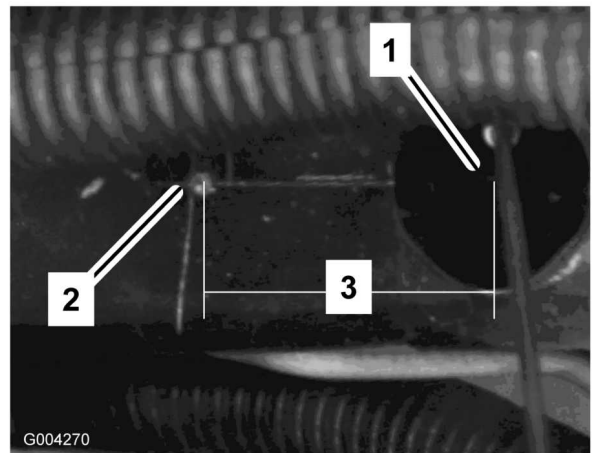

Figure 16
2. Measure $1-1/2$ inches from the center of that hole to the left on the frame (Figure 16). Mark the position with a punch.